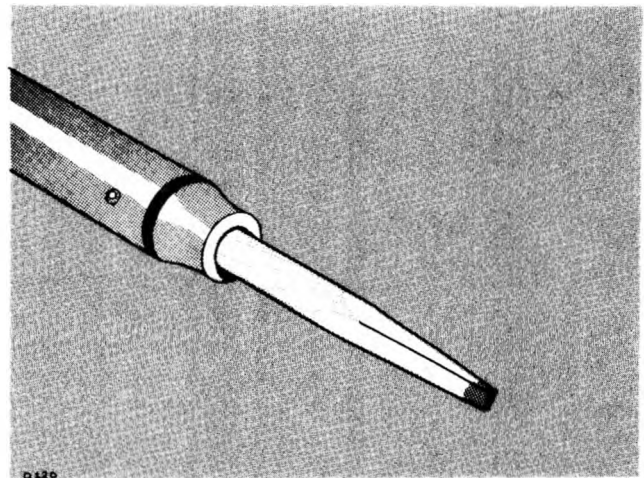

Fig. 4-1. Soldering iron tip properly shaped and tinned.
Because of the shape of the terminals on the ceramic strips it is advisable to use a wedge-shaped tip on your soldering iron when you are installing or removing parts from the strips. Fig. 4-1 will show you the correct shape for the tip of the soldering iron. Be sure and file smooth all surfaces of the iron
2. Prepare the tip of the iron as shown in Fig. 4-1.